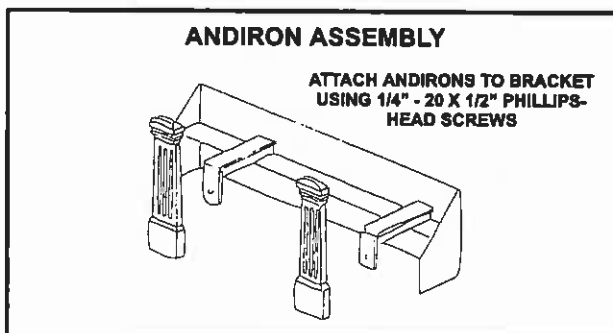
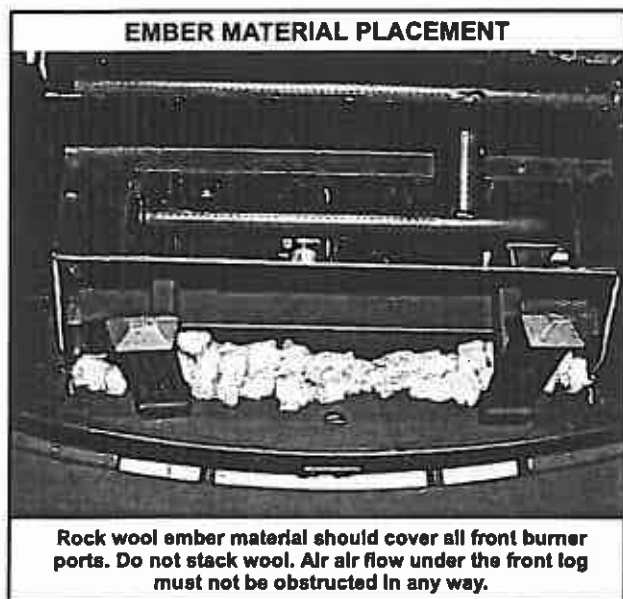

FIGURE 13
FIGURE 14
- 1 - Secure the two andirons to the andiron bracket using two 1/4" - 20 X 1/2" Phillips-head screws. Refer to figure 13. Place the andiron/bracket assembly in the firebox as shown in figure 14.